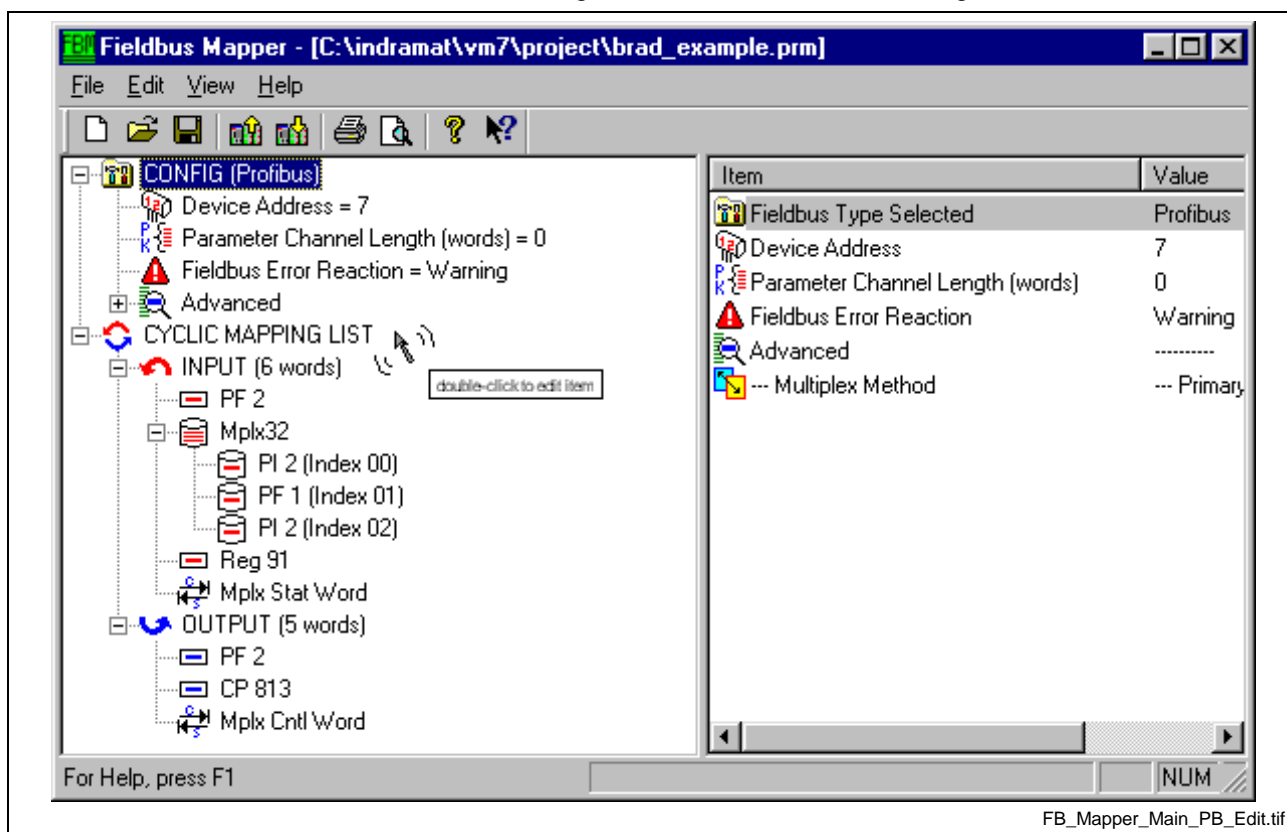

Fig. 6-6: Fieldbus Mapper Main Screen (Complete)
3. Click **Open**. The main Fieldbus Mapper screen appears, which lists the configuration information. Refer to Fig. 6-6.